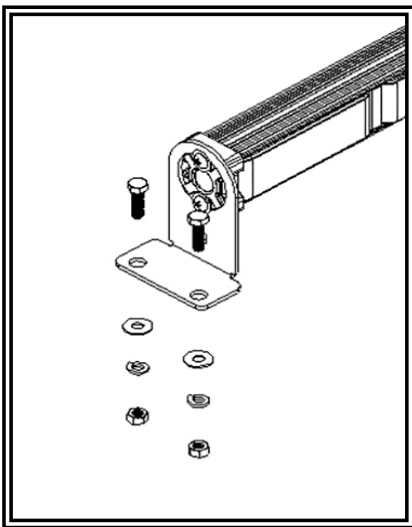

FIGURE 1
1. Loosely assemble a mounting bracket to each end of the unit as shown in FIGURE 1 using the included hardware.